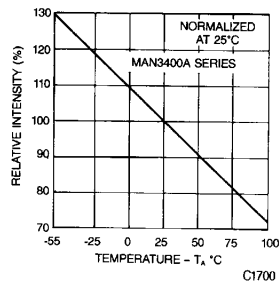

Fig. 3. Relative Luminous Intensity vs. Temperature
- The curve in Figures 3, 6, 9, and 12 is normalized to the brightness at 25°C to indicate the relative Luminous Intensity over the operating temperature range.